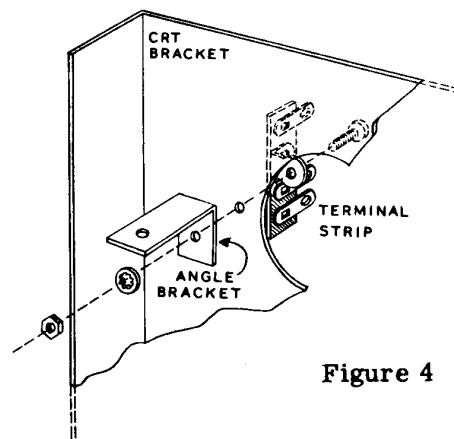

Figure 4
- () Referring to Pictorial 2 and Figure 4, mount the 4-lug terminal strip on the CR tube support bracket at G. Be sure to include one of the small angle brackets as shown.